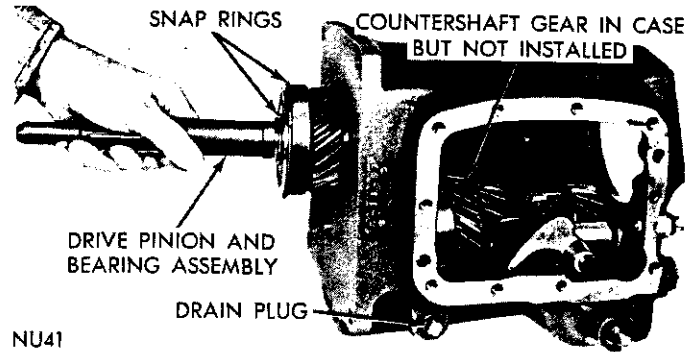
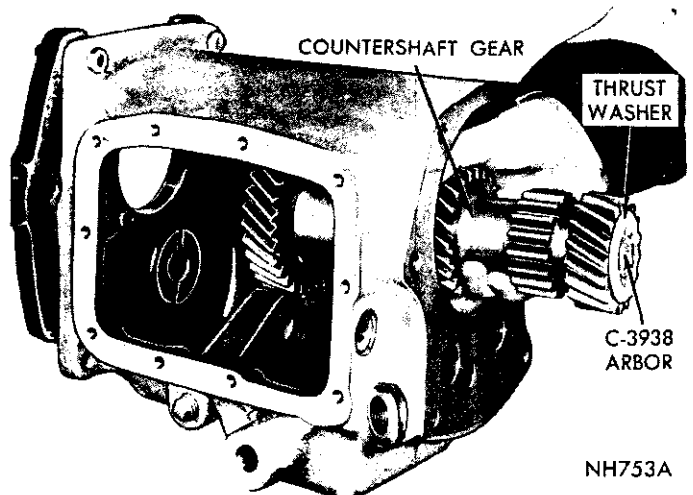

Fig. 34—Removing or Installing Drive Pinion Assy. (Heavy Duty)
Fig. 35—Removing or Installing Countershaft Gear and Arbor
(3) Remove pinion bearing outer snap ring, using a plastic hammer, drive pinion into case and remove. **HEAVY DUTY MODEL** (Fig. 34) because of larger bearing can be removed through front of case.
(4) Remove pinion bearing inner snap ring. Using an arbor press, remove bearing from pinion.
(5) Remove snap ring and 16 bearing rollers from cavity in drive pinion.
(6) Remove countershaft gear from bottom of case (Fig. 35).
(7) Remove arbor and 76 needle type bearings, thrust washers and spacer, from center of countershaft gear.
(4) Install countershaft gear assembly into the case (Fig. 35). Allow gear assembly to rest on bottom of case. (Be sure thrustwashers stay in position.)
(5) Press main drive pinion bearing on pinion shaft. Be sure outer snap ring groove is toward front (Fig.
(6) Install a new inner snap ring on shaft to retain bearing. Be sure snap ring is seated. This snap ring is a select fit for minimum end play (Fig. 34).
(7) Place pinion shaft in a vise (with soft jaws), then install 16 bearing rollers in cavity of shaft. Coat bearing rollers with heavy grease, then install bearing retaining snap ring in its groove.
(8) Install drive pinion and bearing through rear of case and position in front bore. Tap lightly into place, using a plastic hammer. Install outer snap ring in bearing groove. **HEAVY DUTY MODEL** (Fig. 34) because of larger bearing can be installed through front of case.
(9) Start countershaft in its bore at rear of case. Raise countershaft gear until teeth mesh with main drive pinion gear. (Be sure thrust washers remain in position on ends of arbor and tangs aligned with slots in the case.)
(10) Align countershaft arbor with bores in case, then drive countershaft into the gear. Install the woodruff key. Continue to drive shaft into case until end of shaft is flush with rear face of the case. Remove arbor Tool C-3938.